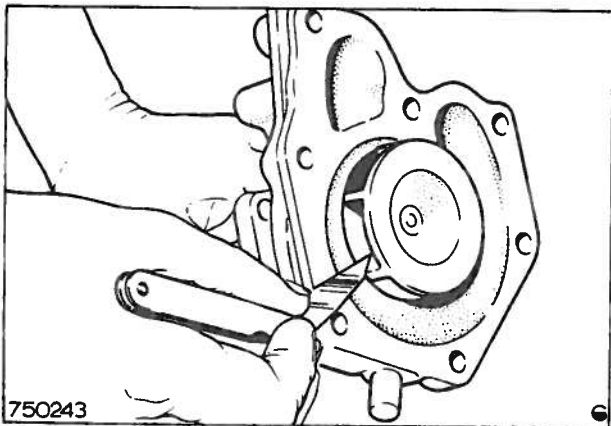

Fig. 21 Measuring the impeller to body clearance
6. Press the impeller onto the shaft until a clearance of 0,76 mm (0,030 in) is obtained (Fig. 21) between the impeller blades and the housing. The front of the shaft should be suitably supported.